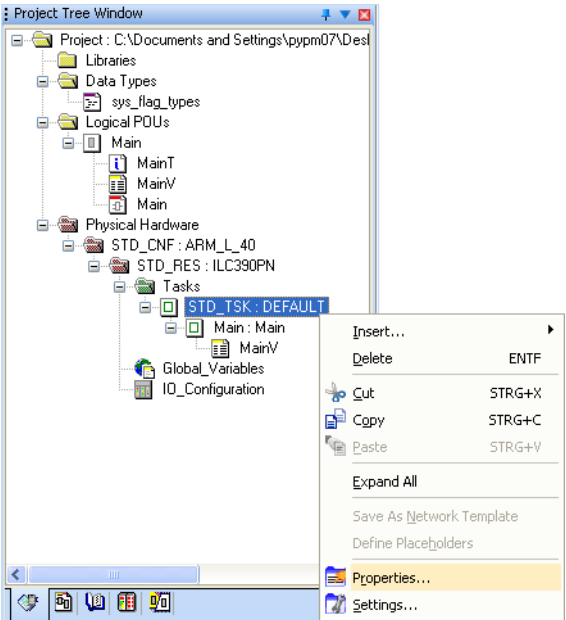

Figure 4-57 Standard task: Properties
- In the standard task context menu, select the "Settings..." menu item (see Figure 4-57 on page 4-45).